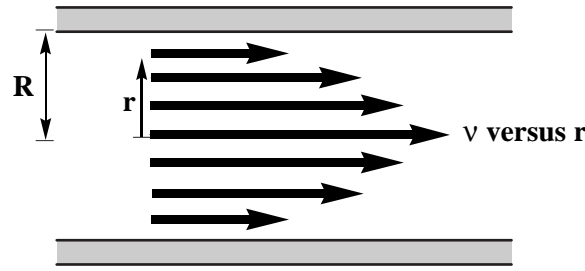

Figure 1: Velocity profile for a viscous fluid in a cylindrical pipe.
- Figure 1 shows the flow speed profile for laminar flow of a viscous fluid in a long cylindrical pipe.
- By applying equation (2) to a cylindrical fluid element, we could derive an equation describing the speed profile.